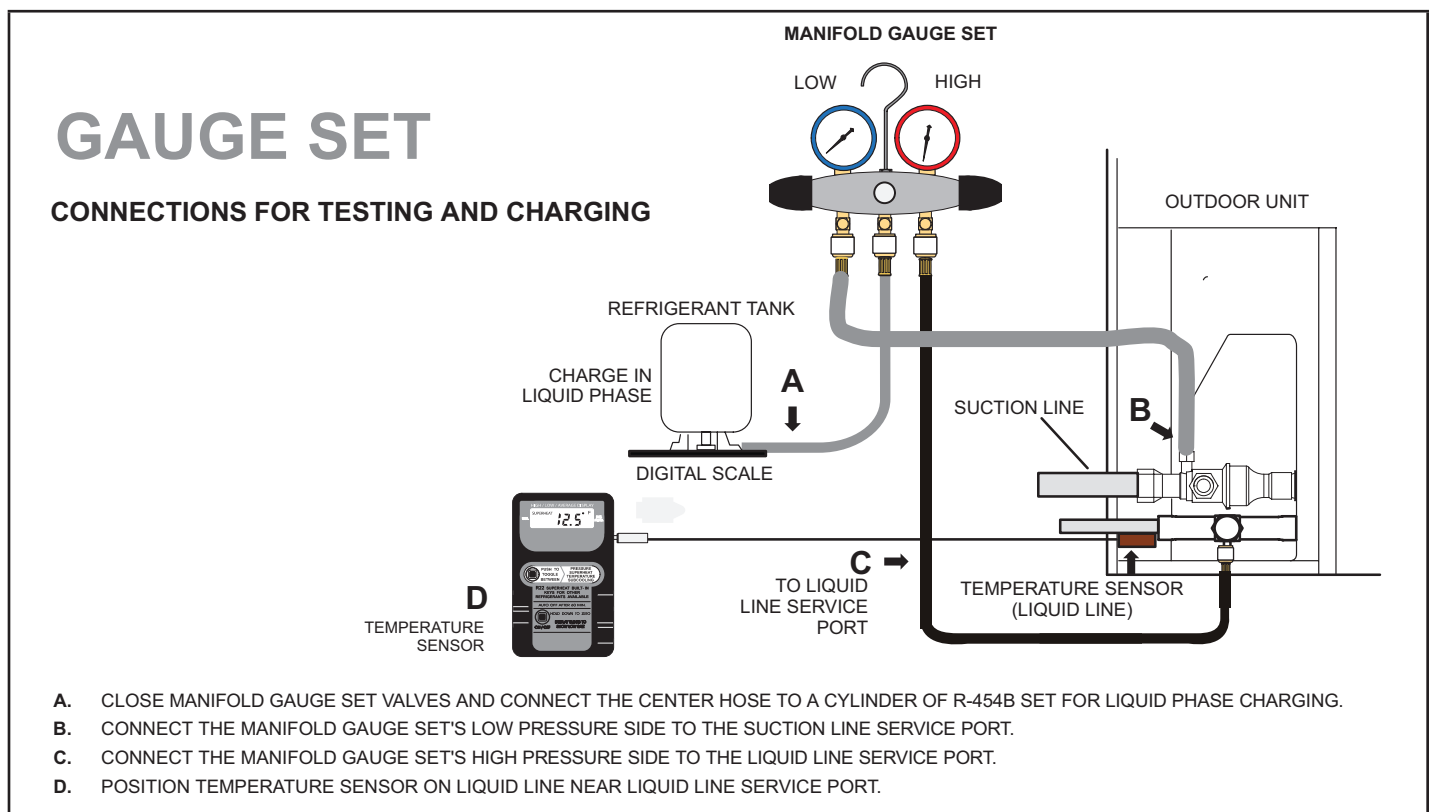

FIGURE 55. Gauge Set Connections
- 1 - Connect a gauge set for testing and charging as illustrated in FIGURE 55.